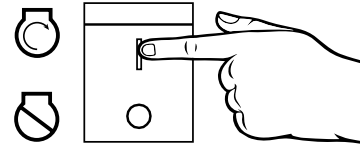

Figure 12 - Engine Control Switch - RUN
9. Push the engine control switch into the **RUN** position (see Figure 12).